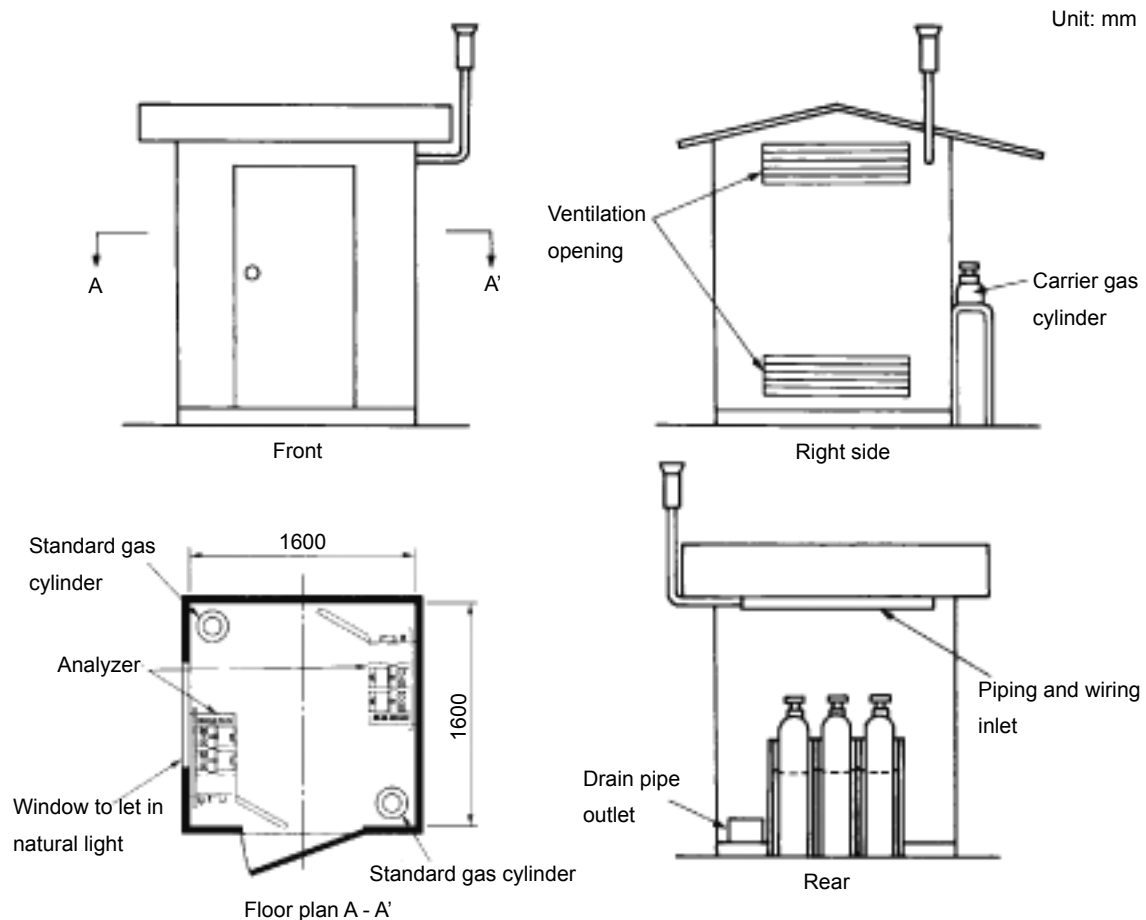

Figure 2.1 Example of Analyzer house
(2) Analyzer house
- If the analyzer is installed outdoors, it is recommended that the analyzer be housed in a special house to protect it from rain and direct sunlight and to facilitate inspection and maintenance. Figure 2.1 shows an example of an analyzer house.
- The floor area shown in Figure 2.1 is the minimum requirement for the house.